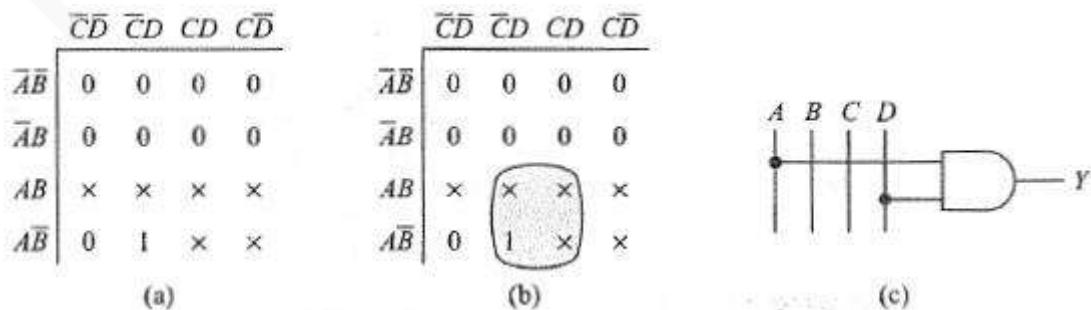

Figure 3.23: Don't care conditions
- This X can be a 0 or a 1, whichever you prefer (Figure: 3.23)